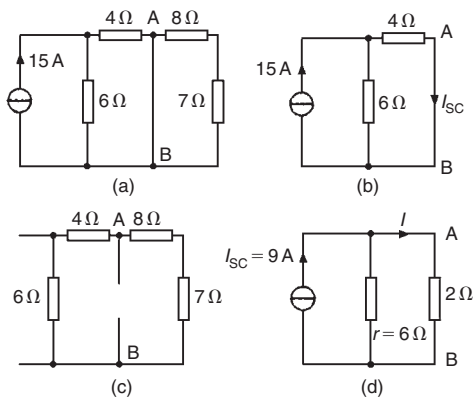

Figure 13.63
- (i) The 2 Ω resistance branch is short-circuited as shown in Fig. 13.63(a)
- (ii) Fig. 13.63(b) is equivalent to Fig. 13.63(a). Hence
- (iii) If the 15 A current source is replaced by an open-circuit then from Fig. 13.63(c) the resistance 'looking-in' at a break made between A and B is given by (6 + 4) Ω in parallel with (8 + 7) Ω, i.e.
- (iv) From the Norton equivalent network shown in Fig. 13.63(d) the current in the 2 Ω resistance is given by: